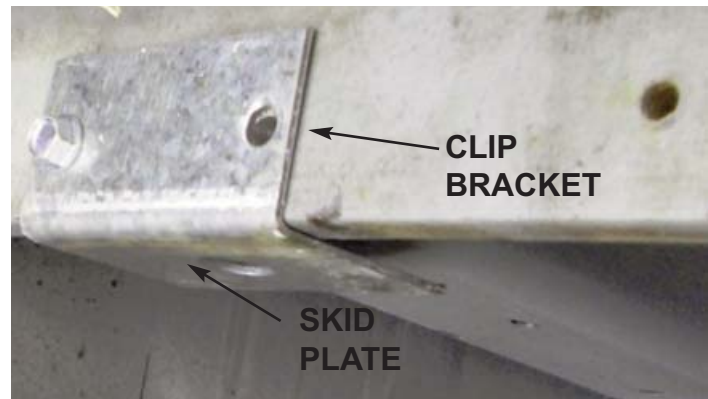

FIGURE 30
The pivot arm assembly is designed so the spring stays are pushed down by the header of the leveler. On the RH model and other formed or open header designs, where the header is not present or allowed to strike the pivot arm assembly, the curtain can span across the deck stringers instead, providing a solid support. In all cases, the spring stays or curtain need to land on or span some kind of support for proper function. The pivot arm assembly cannot be allowed to get behind the header or the unit will be damaged. The pivot arm assembly can be adjusted so that the header strikes them when coming down. Here, adjustments can be made at the pedestal slot to move the assembly forwards and backwards, but the stay cannot hit the back of the lip. If it does, another adjustment needs to be done. There will be situations, even mounted correctly, where the pivot arm assembly still does not reach or land on some support. For those cases, a support needs to be added to the leveler. Clip brackets, provided in the hardware bag, need to be attached to the header. (See Figures 30 & 31.) The clip bracket creates a skid plate for the stays to slide on.
2. Once the location of the bracket is determined, attach the bracket with fasteners provided in the hardware bag. (See Figures 30 & 31.)